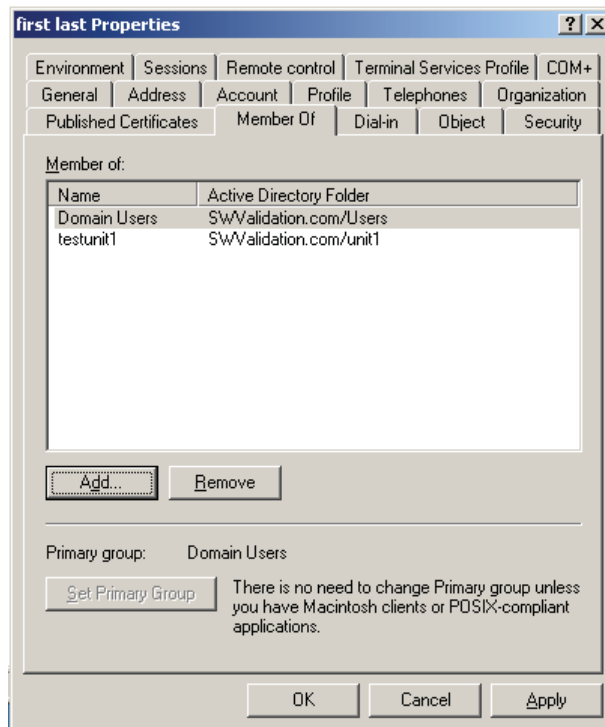

Figure 4.4.7e 'Member of' screen
4. Once the new user has been created, right click anywhere in the screen and select Properties (or double click on the user). When the Properties page opens, click on the 'Member Of' tab (figure 4.4.7e).